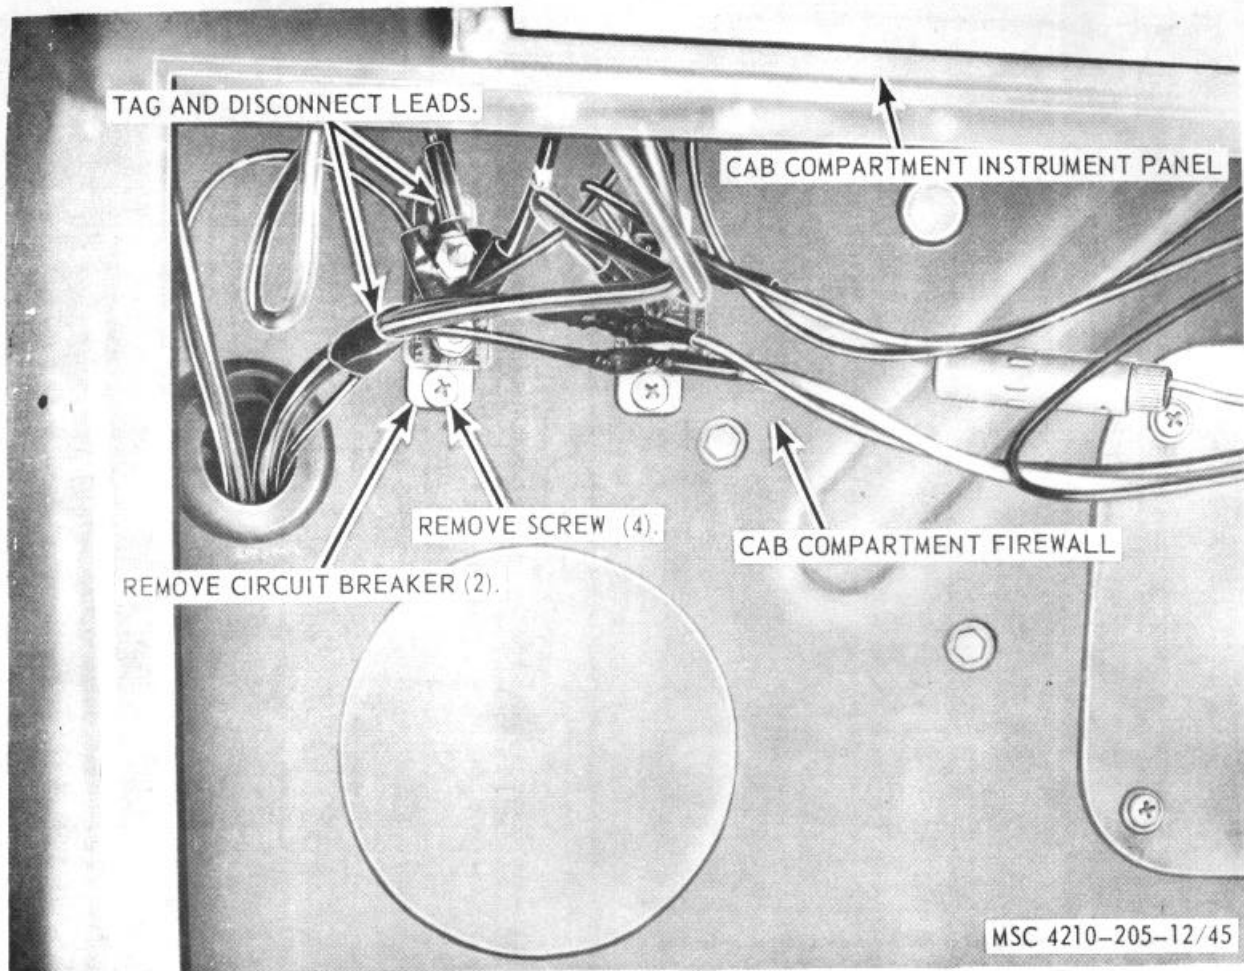

Figure 45. Circuit breakers, removal and installation.
- a. *Removal.* Refer to figure 45, and remove the circuit breakers from the cab fire wall.
- (1) Clean all parts with a clean cloth dampened in an approved cleaning solvent, and dry thoroughly.
- (2) Inspect all parts for damaged or defective condition.
- (3) Replace or repair damaged or defective parts as necessary.
- c. *Installation.* Refer to figure 45, and install the circuit breakers on the cab fire wall.